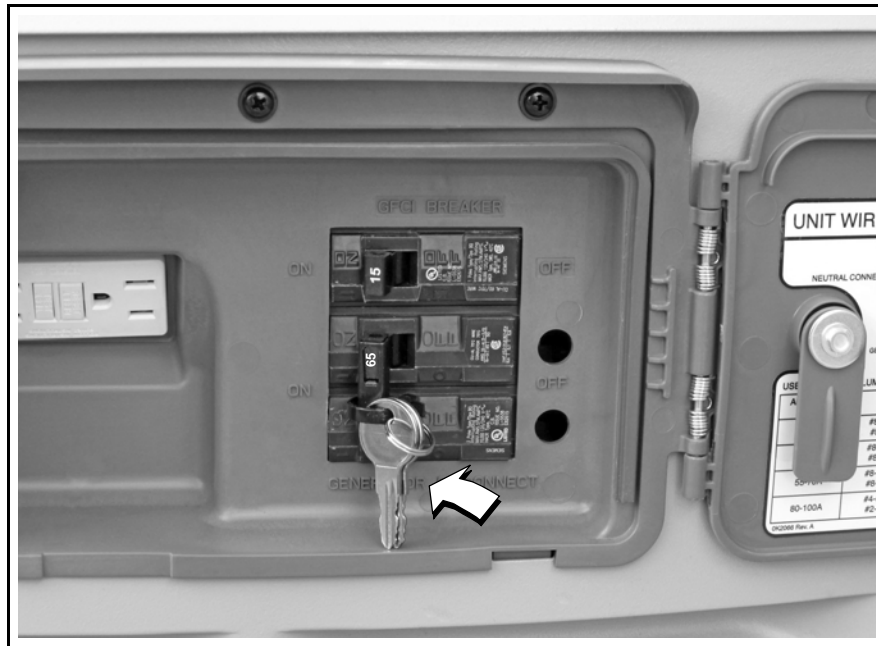

Figure 2-3. Open Side Door Compartment to Obtain Keys
3. The lid of the generator enclosure is locked. Open the side door compartment and carefully cut the cable strap to release the keys from the circuit breaker switch. See Figure 2-3.